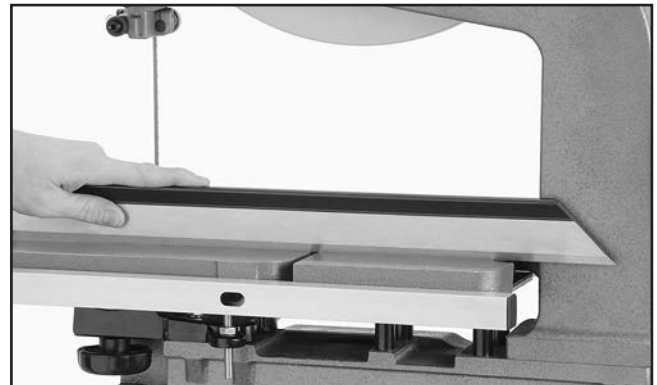

Figure 29. Leveling extension table with straightedge.
- Place a straightedge across the front of the main table and extension table as shown in **Figure 29**.